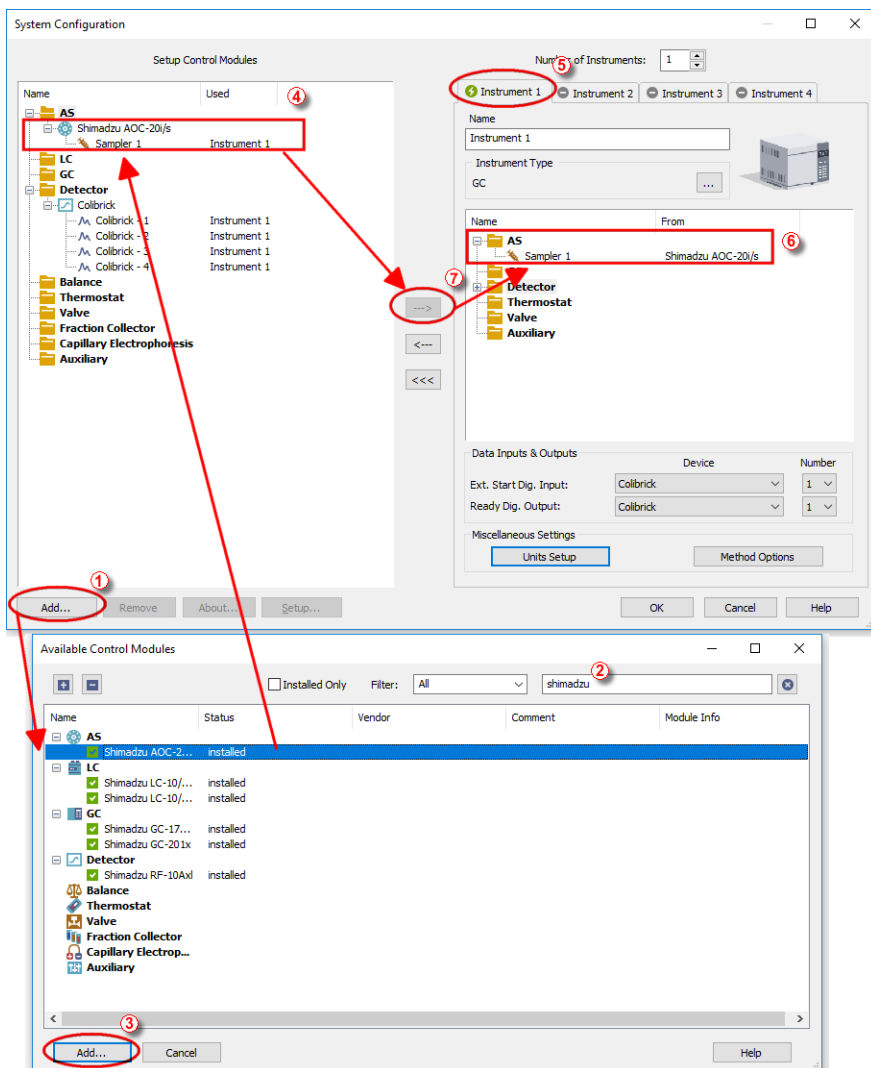

Fig 4: How to add Shimadzu AOC-20
- Press the *Add* button ① (see **Fig 4** on pg **5.**) to invoke the **Available Control Modules** dialog.
- You can specify the searching filter ② to simplify the finding of the driver.
- Select the **AOC-20** sampler and press the *Add* ③ button.